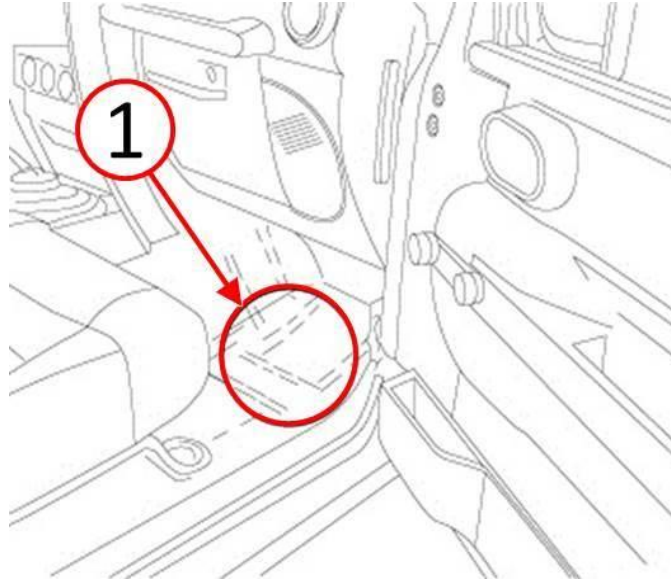

Fig. 1 Water In Foot Well
1. Determine if water in the front floor foot well is coming from the cowl side trim panel fir tree fasteners. Refer to water leak diagnosis within the detailed service procedures available in DealerCONNECT> TechCONNECT under: Service Info> 23 - Body> Diagnosis and Testing (Fig. 1).